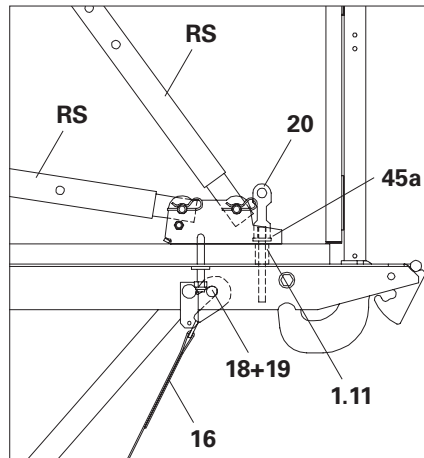

Fig. B2.04b
1. Bolt Base Plate-2 for RS 210-1400 (45a) into the rear multi-purpose connector (1:11) with Push-Pull Prop Bolt FB (20).
2. Secure Push-Pull Prop RS with bolts and cotter pins. (Fig. B2.04b)
1. Hook the suspension hook of the tension belt (29) in an additional bolt $\text{\O} 16 \times 150$ (18) with cotter pin (19) in the hole behind the connection of the struts. (Fig. B2.04b + B2.04c)